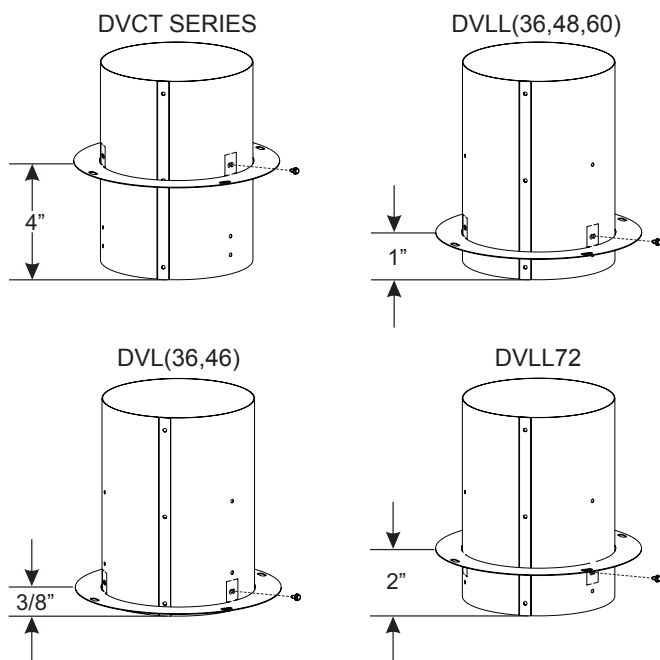

Figure 8
9. Assemble (2) 6" diameter X 8" long collars with the collar flanges as shown in **Figure 8**. Attach the flange to the collar with (3) # 10 X 1/2" screws using the proper hole locations based on the particular fireplace model you have.